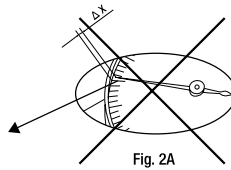

Fig. 2A
Parallax Error: Be careful when measuring to avoid the parallax error (Δx). This error occurs when the observation point is not perpendicular to the display (fig. 2A). Take the reading perpendicularly to the dial display (3) (fig. 2B).